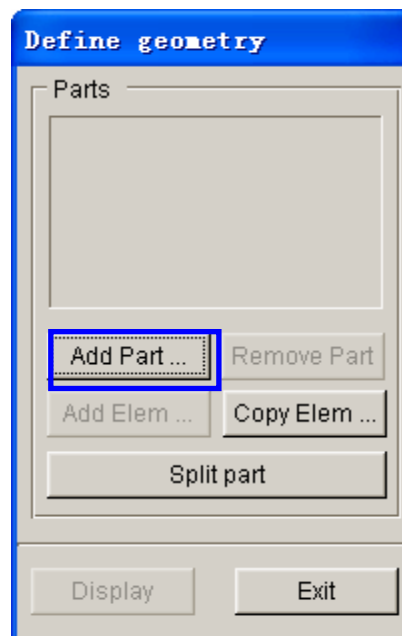

Figure 4.7 Define geometry dialog box
3. The DEFINE GEOMETRY dialog box illustrated in Figure 4.7 is displayed.